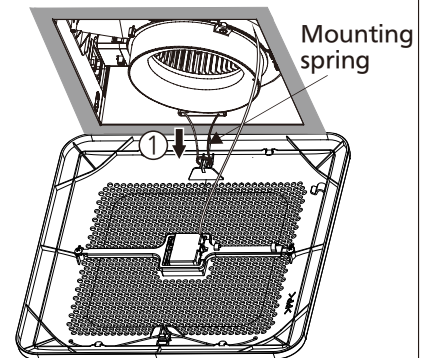

Fig.17
4.Remove the other mounting spring to remove the grille.(Fig.17①)
4.Remove dust and dirt from fan body using a vacuum cleaner. (Fig.17)
5.Using a cloth dampened with kitchen detergent remove any dirt from fan body. Wipe dry with clean cloth. (Fig.17)